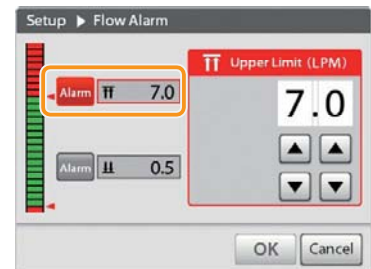

Figure 3-2
2. Confirm that [Alarm] of the upper limit is selected. (Figure 3-2)